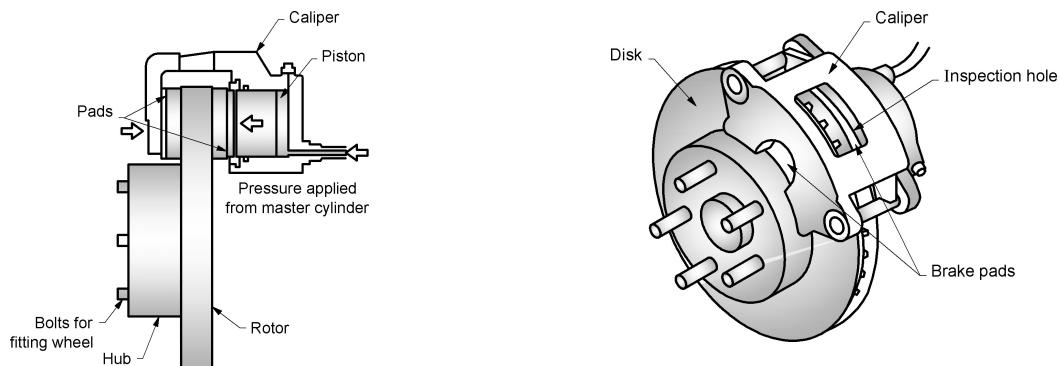

Fig. 7.15 Disc brake
- (1) As shown in Fig. 7.15, it consists of a disc rotor which is attached to the wheel hub and it rotates with it. The wheel of the vehicle is bolted to the wheel hub.
- (2) A brake calliper is mounted above the disc. It contains two brake pads on either side of the disc. Near the brake pad inside the calliper, piston is placed to provide brake force on the brake pads when brake pedal is pressed.
- (3) When the brake pedal is pressed, the high pressure fluid from the master cylinder pushes the piston towards braking pad. The fluid pressure moves inwards and pulls the brake towards the rotating disc finally touching it.
- (4) A large amount of friction is generated in between the pads and rotating disc and slows down the vehicle and finally stopping it.
- (5) When the brake pedal is released, the piston is pulled back and brake pad moves away from the rotating disc and vehicle again starts moving.